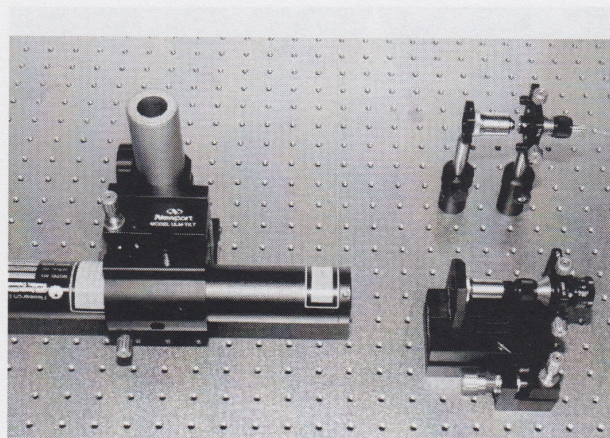

Figure 4.3. Laboratory set-up for observing low order modes in a multimode fiber with low V-number.
3. Insert the far end of the fiber into a post-mounted FP-1A Fiber Positioner. Insert the 40X microscope objective and FPH-S into the F-916 Fiber Coupler. The laboratory set-up for this part of the project is shown in **Fig.4.3**.